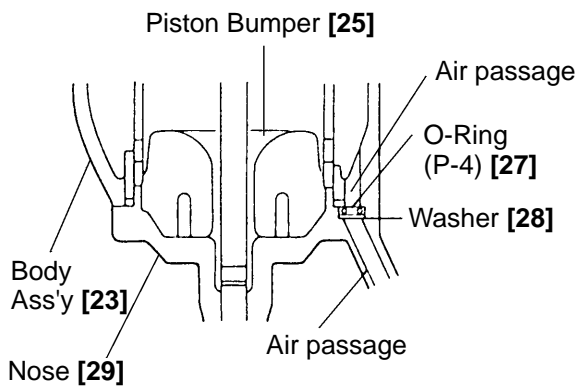

Fig. 12
- Carefully clean inside of the air passage of the Nose [29] and the feed piston chamber with a clean rag before reassembly, as anything like broken pieces of the Piston Bumper [25] clogged in such spaces may make the motion of the Feed Piston [65] dull. (Fig. 12)